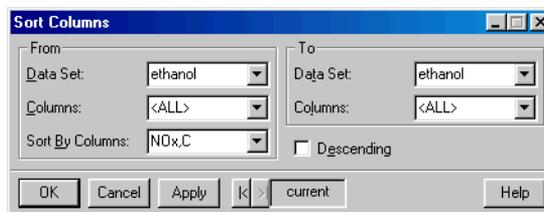

Figure 2.31: *The Sort Columns dialog.*
1. From the main menu, choose **Data ► Restructure ► Sort**. The **Sort Columns** dialog opens, as shown in Figure 2.31.